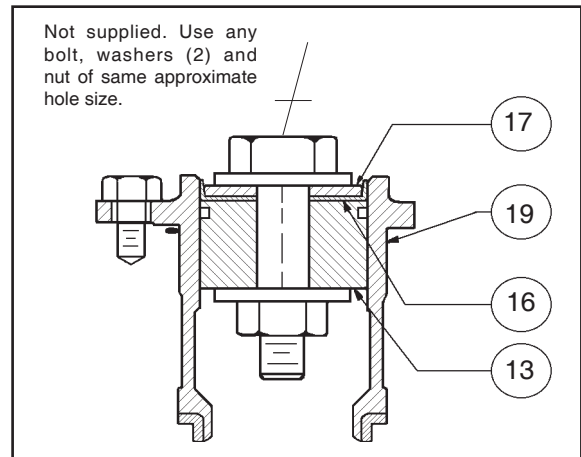

Figure 4
1. When replacing the wiper seal (16), the wiper seal (16) should be “performed” from the factory. It will, however, require reforming. Reform the wiper seal (16) by pressing the temporary assembly parts into the cage (19) backwards as shown in Figure 4 (only applicable to composition diaphragm design). The wiper seal (16) is best left in this position overnight, but a minimum of 30 minutes prior to reassembly. Soaking in a bucket of hot water will speed up the reforming process.